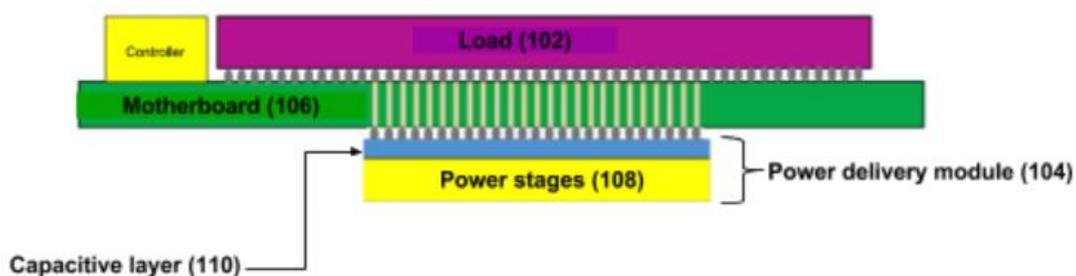

Fig. 1: Vertical power delivery
As illustrated in Fig. 1, per the techniques of this disclosure, the voltage regulator, also known as power stages (108), is encapsulated within a power delivery module (104) and placed directly (vertically) underneath its load (102), e.g., underneath the motherboard (106), between the load package and the motherboard, or otherwise vertically opposed to the load. Passive decoupling capacitors (110) are integrated into the power delivery module, such that the components of the VR and the decoupling capacitors are structured as layers within the power delivery module.